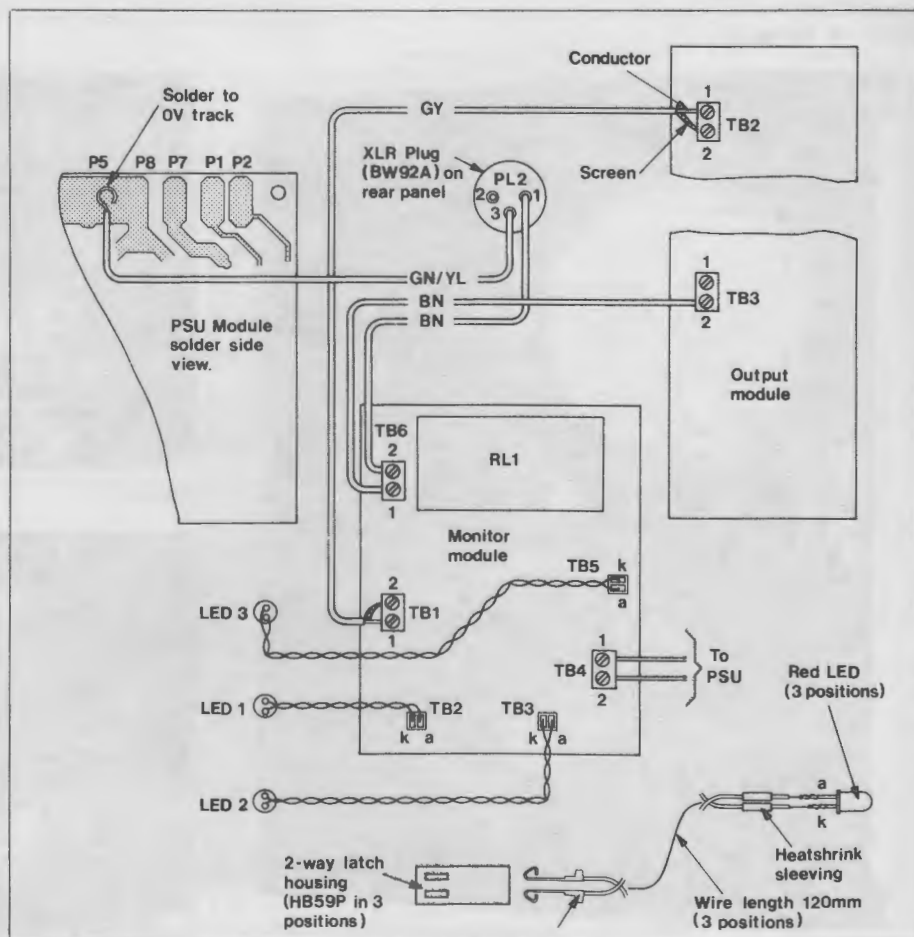

Figure 12. Wiring the LEDs.
The three LEDs associated with the Monitor module are wired to 'minicon' terminals, see Figure 12, and glued into the front panel as shown in Figure 3. Cut three 120mm lengths each of the red and black hook up wire, prepare the ends and solder a red wire to each of the three LED anode leads (longest lead of the two). Solder a black wire to each of the LED cathode (K)